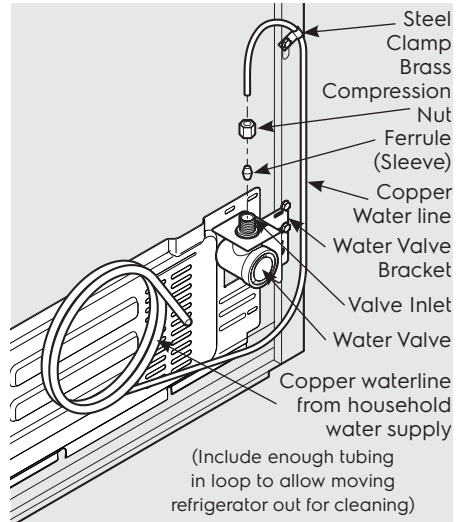

Figure 1
4. If you use copper tubing - Slide the brass compression nut, then ferrule (sleeve) onto the water supply line. Push the water supply line into water valve inlet as far as it will go ( $\frac{1}{4}$  inch/6.4 mm). Slide ferrule (sleeve) into the valve inlet and finger tighten the compression nut onto valve. Tighten another half turn with a wrench; DO NOT over tighten. See Figure 1.